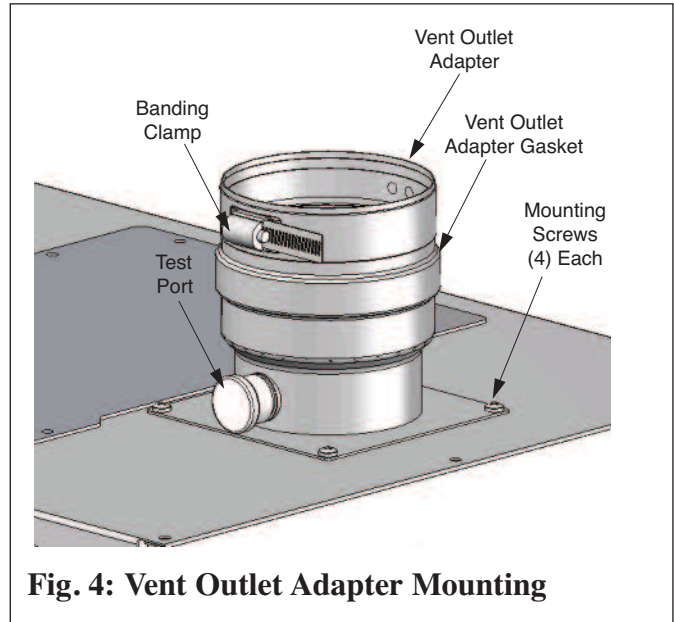

Fig. 4: Vent Outlet Adapter Mounting
1. Use a flat head screw driver to loosen the banding clamp located on the vent outlet adapter. (Fig. 4).
1. Dismount the vent outlet adapter from top of boiler cabinet by removing the 4 mounting screws. Do not discard the mounting screws and vent outlet adapter as they will be reused. (Fig. 4)